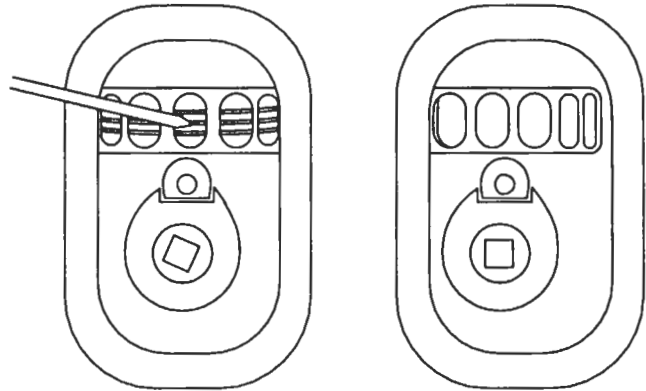

Figure 3. Inspect Piston Rings
1. Piston rings may be stuck or broken. To determine the condition of the rings, remove the air box cover and inspect them by pressing on the rings with a blunt tool (Figure 3.) A broken or stuck ring will not have a "spring-like" action.